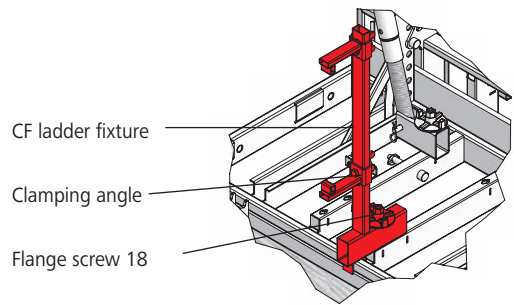

Fig. 9.2
2. Attach the ladder fixture with a flange screw 18 to the panel's multi-function profile (Fig. 9.2).